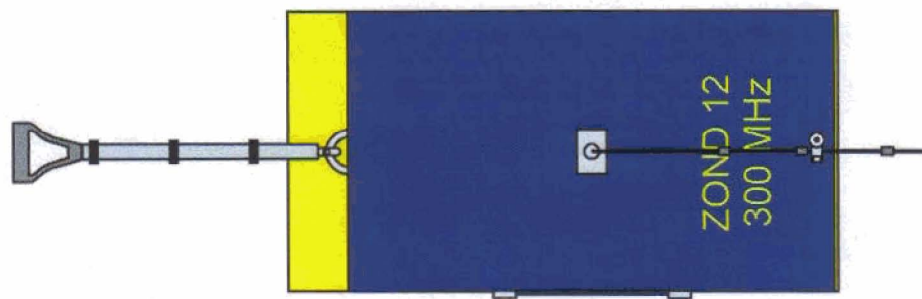

Fig. 3a. Attaching of handle and 20 m cable to antenna unit.
4) Assemble the antenna. If a high frequency antenna is applied (100, 300, 500, 900 MHz, 1.5 or 2 GHz), it is required to attach the handle and to connect the antenna cable to the antenna. 3-m antenna cable should be attached to the handle by plastic clamps or adhesive band as it is shown in Fig.3. 20-m antenna cable is fixed on antenna by special clamp as it is shown in Fig.3a. The 100 MHz antenna is combined as shown in Fig. 6. Each 100 MHz antenna has two 5-pin connectors. Attaching cables to antenna operator may use any of two connectors because they are connected in parallel. If odometer wheel is needed it is attached to antenna as shown in Fig. 3b and 6a. Survey wheel is connected to antenna via 3-pin connector. The operation combination of the low frequency antenna 38-150 MHz is shown in Fig. 5. Transmitting and receiving antennas are fixed to the grip via articulators those may be fixed at